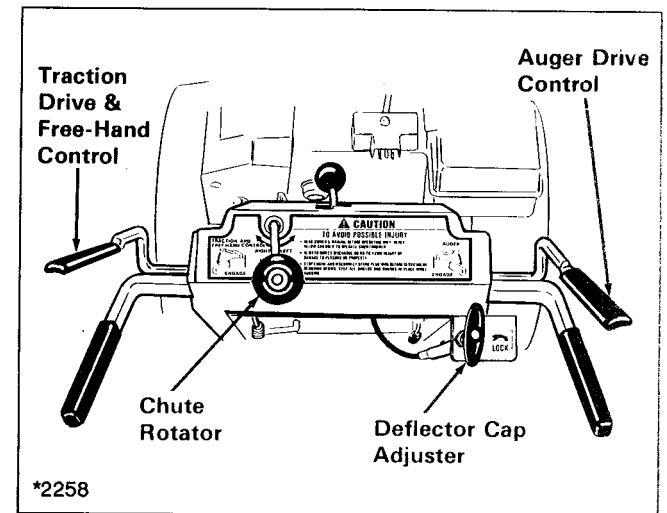

Figure 8. Free-Hand™ Control
4. To start snowthrower into motion, depress the Traction Drive Lever (figure 8). Releasing the lever will stop the forward or reverse motion of snowthrower.
5. The lever on right-hand side is the Auger control lever (figure 8). Depress this lever to engage the auger. Releasing the lever will stop the auger unless the the Free-Hand™ control has been activated. See step 6 for explanation of Free-Hand™ control.